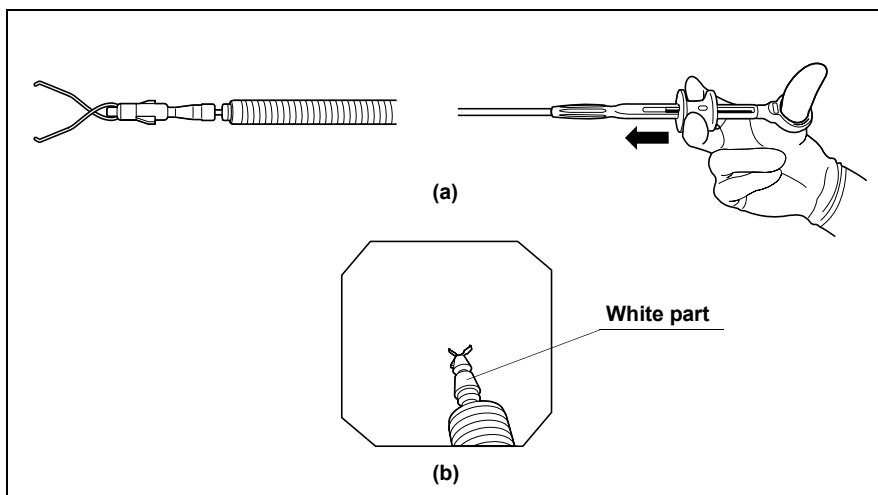

Figure 3.9
1. Gently push the slider so that the clip projects from the coil sheath until the white part of the clip is visible. At this time, the clip should appear in the endoscopic image as shown in Figure 3.9(b).